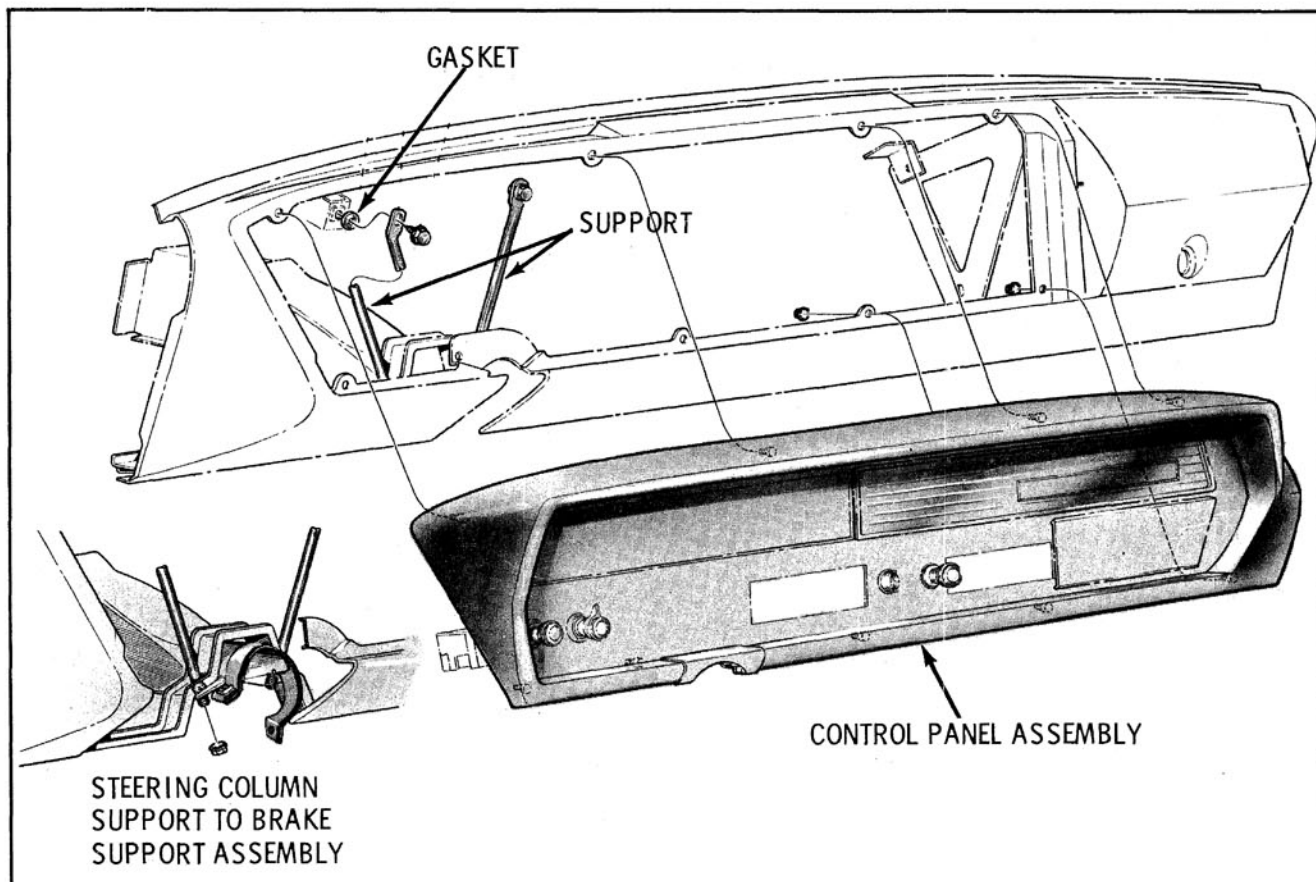

Fig. 12-102 Control Panel Attachment
4. Remove the control panel to instrument panel attaching nuts (Fig. 12-102) and remove the control panel with all controls intact.